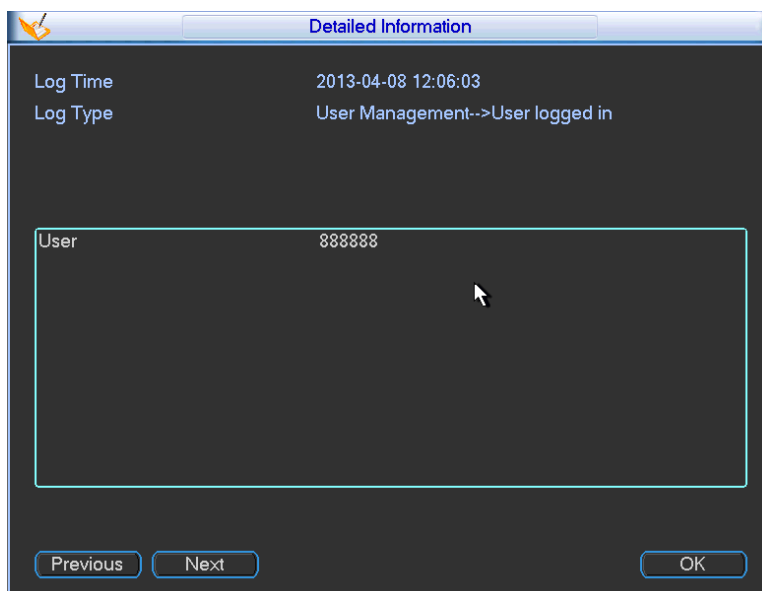

Figure 4-13
- Details: Click the Details button or double click the log item, you can view the detailed information. See Figure 4-13. Here you can use rolling bar to view information, or you can use Page up/Page down to view other log information.